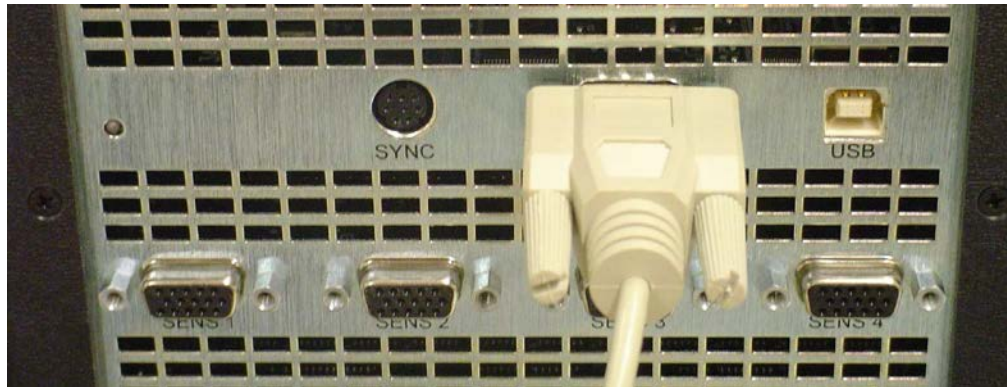

Figure 1-8: RS-232 Cable Connection
1.2.11 Locate the RS-232 cable and insert it into the receptacle as shown in Figure 1-8.